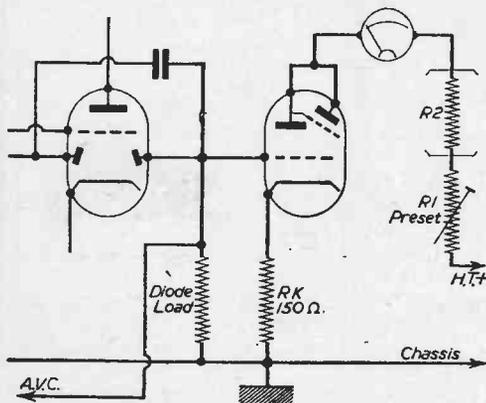

Fig. 1.—Circuit of the tuning indicator.
• Fig. 1.—Theoretical circuit of the Tracer.
In the circuit (Fig. 1), it will be seen that the anode and target are strapped together and the H.T. fed via a variable resistor and the meter. Conditions are so arranged that the meter shows full-scale deflection when the negative grid potential is provided solely by the cathode bias resistor. In practice this means that the working conditions are those of "no signal." The grid is connected to the negative end of the diode load of the demodulator valve in the receiver—either the signal or A.V.C. diode. If the receiver already possesses a "magic eye" this connection will already have been made.